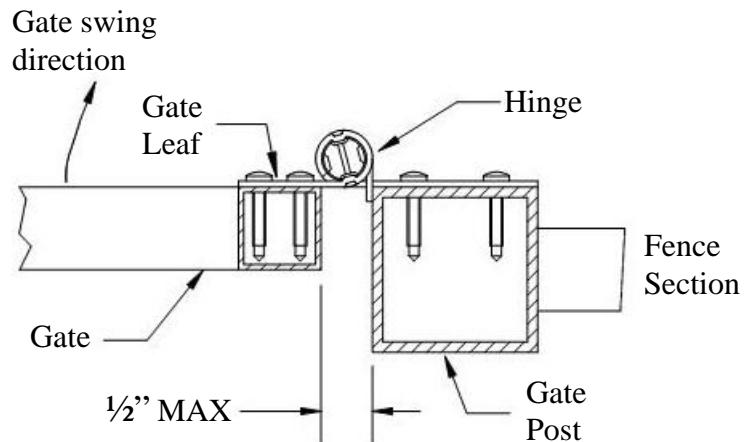

FIGURE 6
- 3.2. Locate the hinges as far apart as possible on the gate and clamp the hinge post leaf to the post. Verify that the hinge post leaf is completely flush and plumb with the mounting surface, to avoid binding. Note the direction the gate will open. See Figure 6.